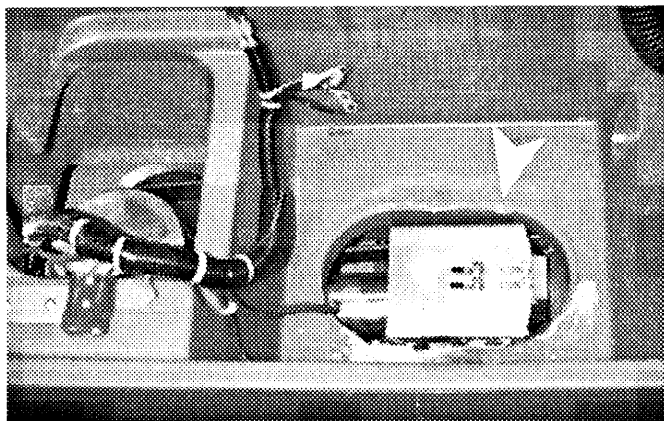

FIG. 26
3. Loosen 4 motor mount bolts, do not remove bolts. (Figure 26)